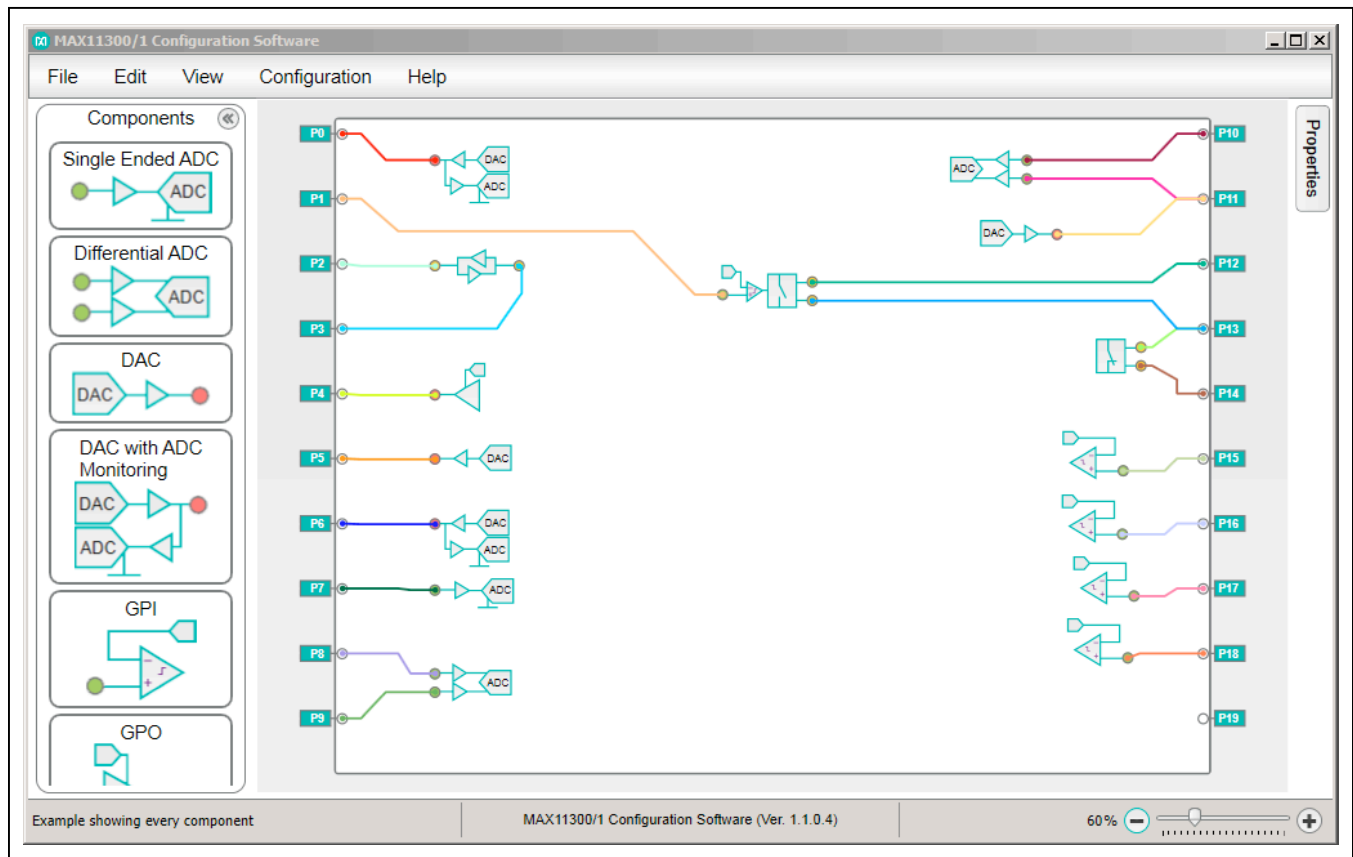

Figure 1. MAX11300 EV Kit Configuration Software
- The MAX11300 configuration software main window appears, as shown in Figure 1. Drag and drop components into the device, wire them up, and then use the **File** menu | **Generate Registers** to export the configuration to Max11300Register.csv.